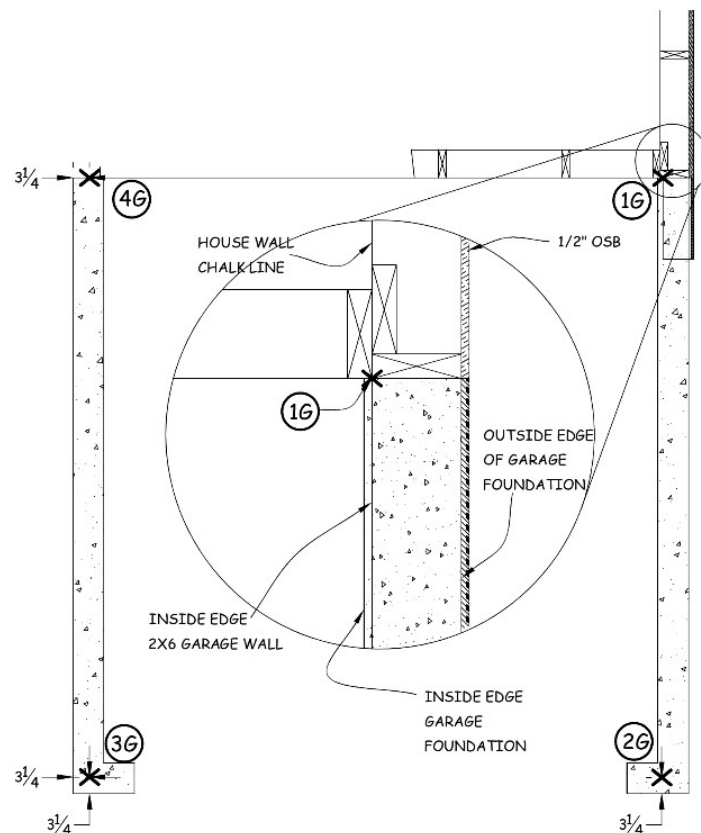

Figure 23-2. Garage Sill Plate Chalk Lines After House Walls.
3. Establish Points 3G and 4G as shown in Figure 23-2.